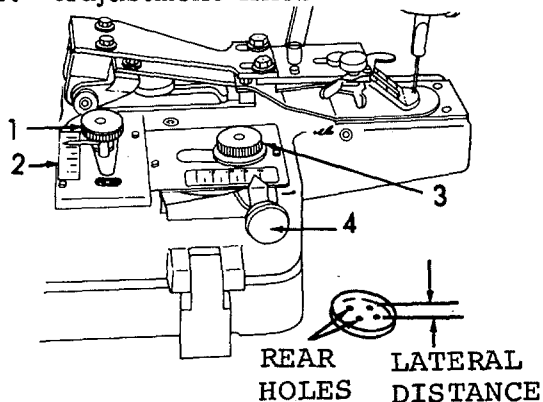

Figure 2-54. Two-Hole/Four-Hole Button Selection.
- (1) Press and hold the left foot treadle to raise the button clamp.
- (2) Use the button clamp spreader lever (1) to open the button clamp and insert a button (2 or 3) with the holes aligned right and left and then release the lever (1).
- (3) Loosen thumbscrew (4) and move the adjusting lever (5) to a point where it just contacts the screw threads. Tighten thumbscrew (4) securely.
f. *Adjusting for Two-Hole and Four-Hole Buttons (Refer to Figure 2-54).*